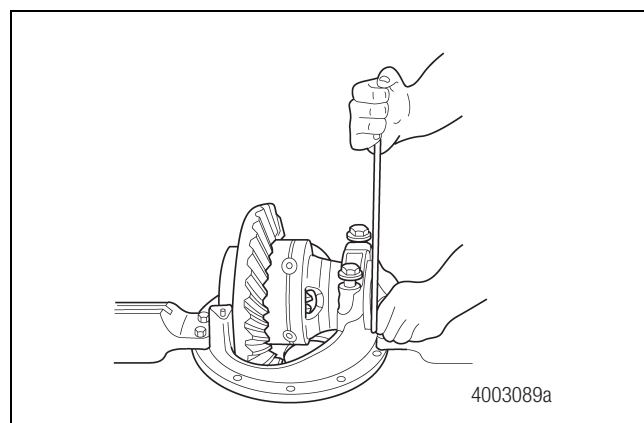

Figure 4.8
3. Loosen the differential bearing adjusting ring. Figure 4.8.